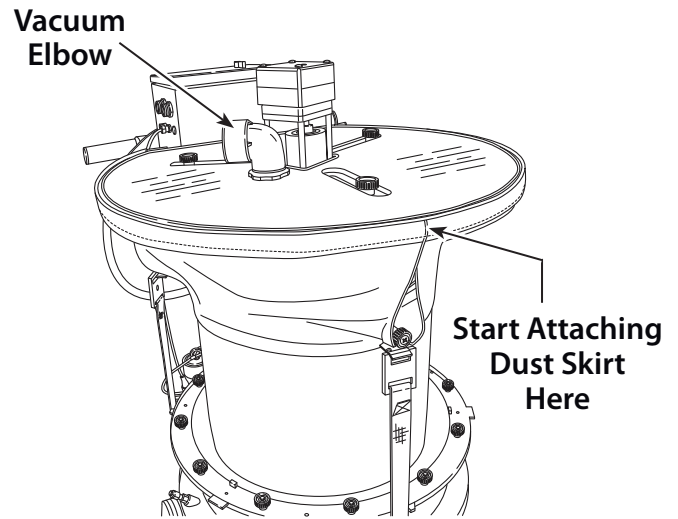

Figure 17
3. Raise the dust skirt and start attaching the Velcro strip to the hood at a point 180° from the flat edge of the hood. (Figure 17)